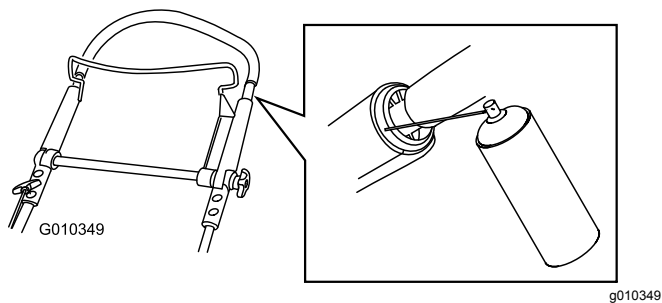

Figure 20
1. Spray the outer plastic end of the inner handle (Figure 20).